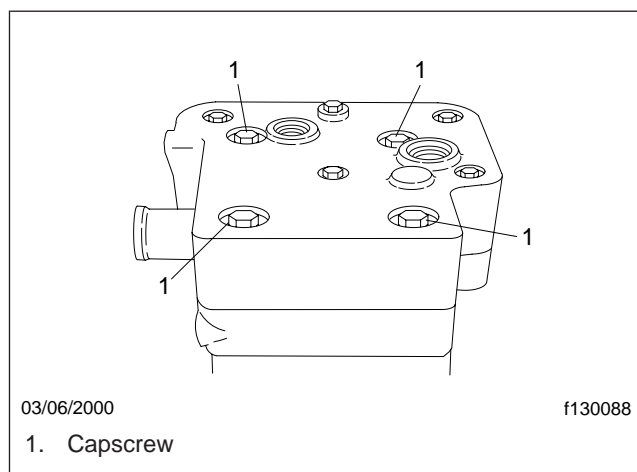

Fig. 1, Cylinder Head Capscrews
- 6.2 Note the positions of any attached components, then remove the four M8 cylinder head capscrews. Discard the capscrews. See Fig. 1.